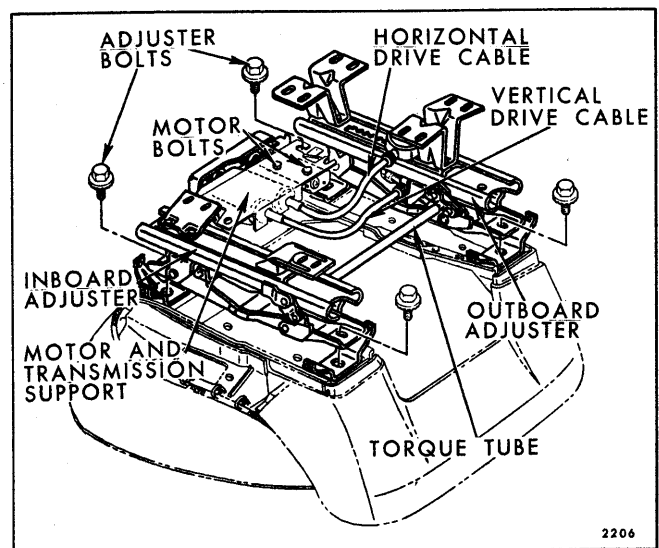

Fig. 10-36—Four-Way Bucket Seat Assembly
3. If outboard adjuster is being removed, disconnect bolt, horizontal and vertical drive cables from vertical gearnut and horizontal actuator (Fig. 10-36).
5. Remove adjuster-to-seat bottom frame front and rear attaching bolts securing adjuster to be removed (Fig. 10-36).
2. Disengage torque tube from outboard adjuster (Fig. 10-36 and 10-37) and remove torque tube assembly.